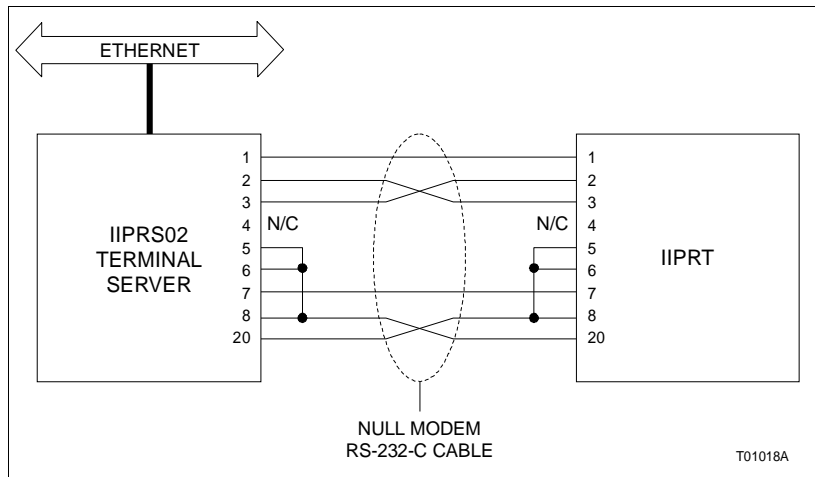

Figure PR36-1. Printer Cable Configuration
- 3. Connect one end of the printer cable to the DB-25 serial connector of the printer (Fig. PR36-1).